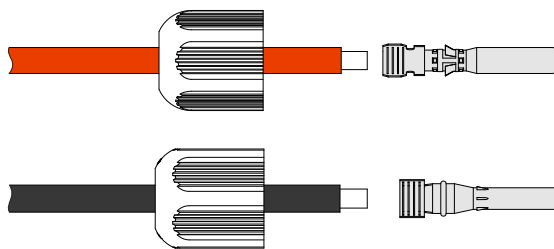

Figure3-17 Crimp the metal terminal
- Step 2 Unscrew the lock nut of positive and negative connection, lead the positive and negative wires go through corresponding lock nut, and then insert the positive wire and negative wire into the positive metal terminal and negative metal terminal respectively. Crimp the metal terminals firmly by crimping pliers, as shown in Figure3-17.